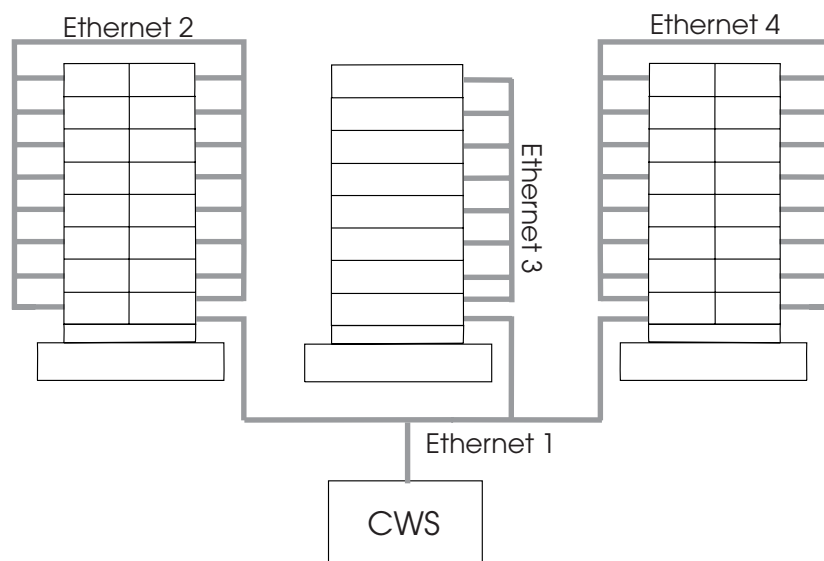

Figure 7. Method 2 Ethernet Topology for Multi-Frame SP System
2. A second approach designates the first node in each frame as a network install server, and then the remaining nodes of that frame are set to be installed by that node. This means that, from the control workstation, you will have an SP Ethernet segment connected to one node on each frame. Then the network install node in each frame has a second Ethernet card installed which is connected to an Ethernet card in the rest of the nodes in the frame. Figure 7 shows an Ethernet topology for this multi-frame system.